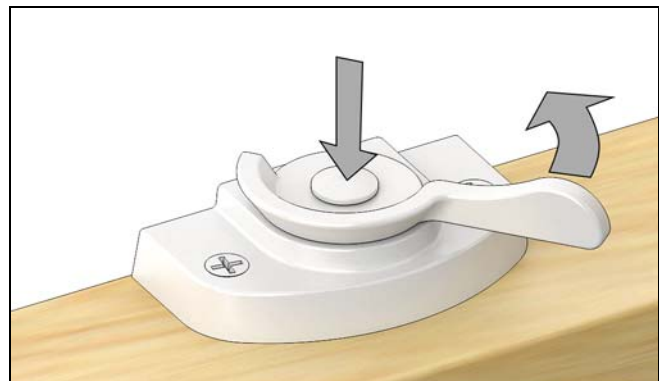

Figure 7
3. Rotate handle to 135° to unlock, then push center button to allow handle to rotate to 180° for tilting. See Figure 7.